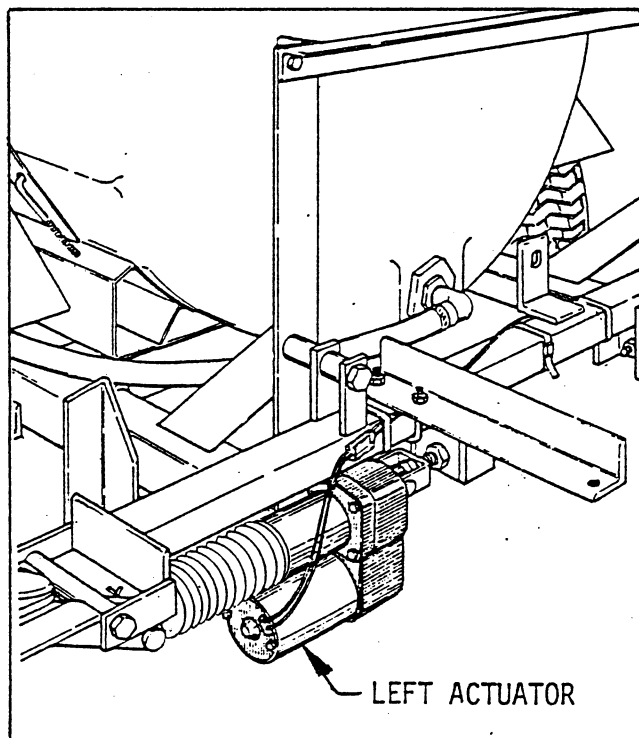

FIG. 1
1. If the Struts have been installed, (for use with a Manual Boom Frame) disassemble them and use the clevis pins and hair pin cotters to install the Electric Actuators as shown in FIG. 1.